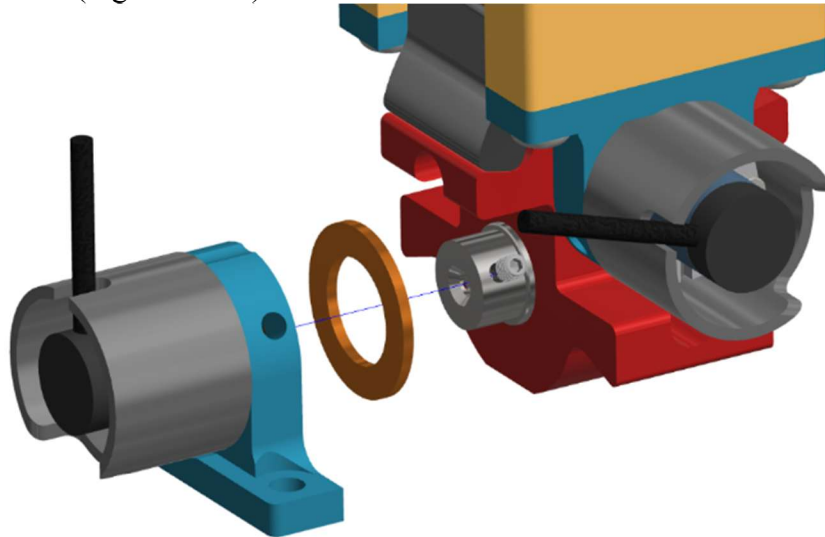

Figure 10-44. Slide the X-Axis Potentiometer with the Ankle Plate Bushing on to the Ankle Center Block Assembly
- 10.3.9 Slide the X-Axis Potentiometer with the Ankle Plate Bushing on to the Ankle Center Block Assembly (474-5824-A). Tighten the M3 X 0.5 X 3 LG. SSSNP from the X-Axis Potentiometer (Figure 10-44).